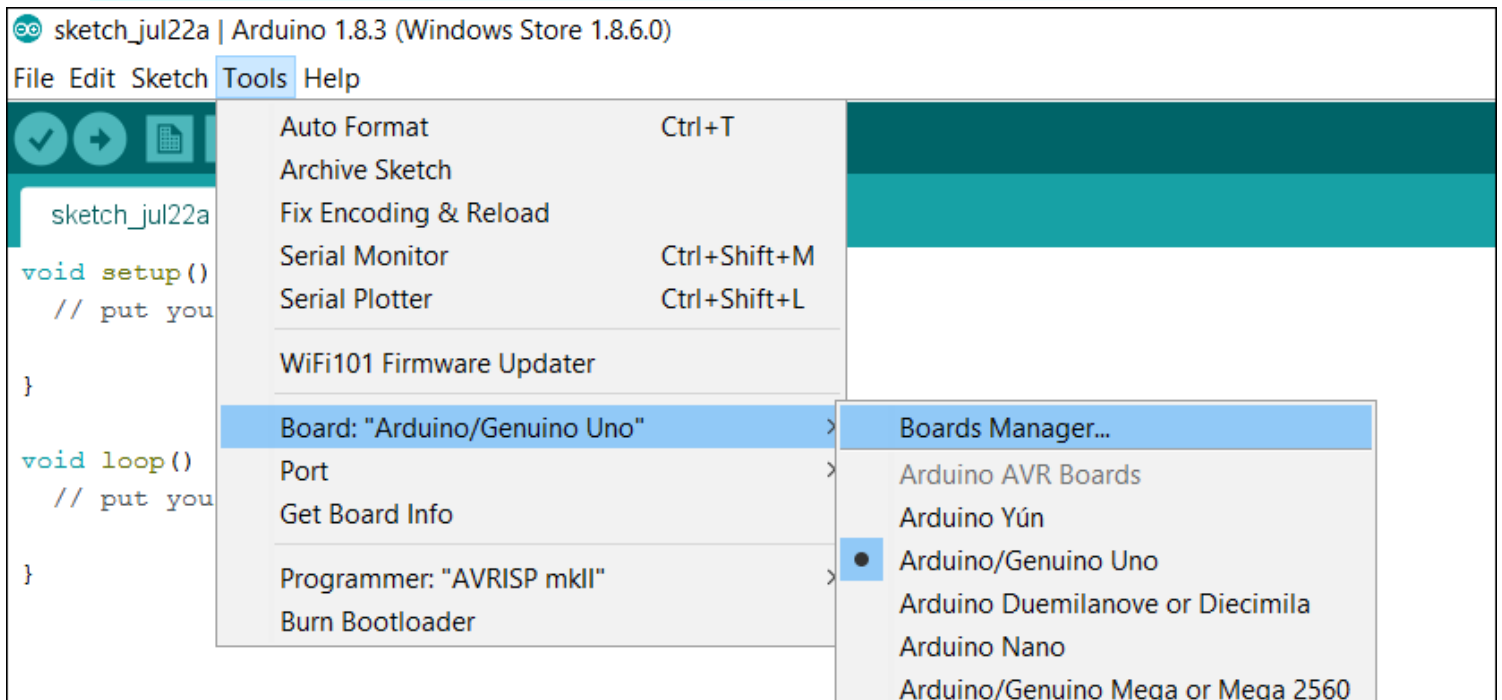

Figure 2-5 Arduino IDE, Boards Manager Menu
- 4) Now click the menu Tools / Boards / Boards Manager, as shown in Figure 2-5.